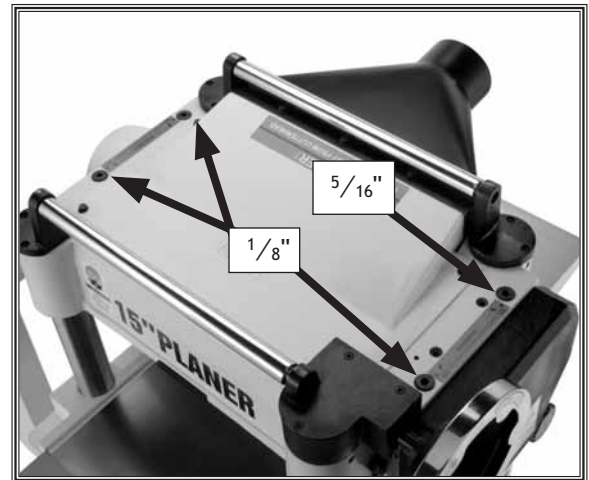

Figure 43. Roller spring tension plug protrusion.
1. Locate the four adjustment screws located on the top of the planer, as shown in **Figure 43**.
2. Adjust tension screws so they protrude to the value shown in **Figure 43**.